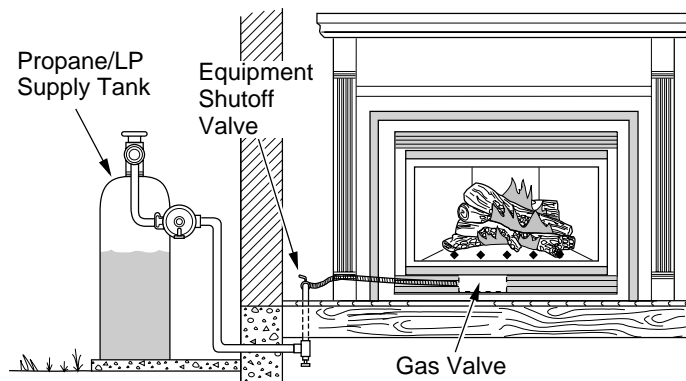
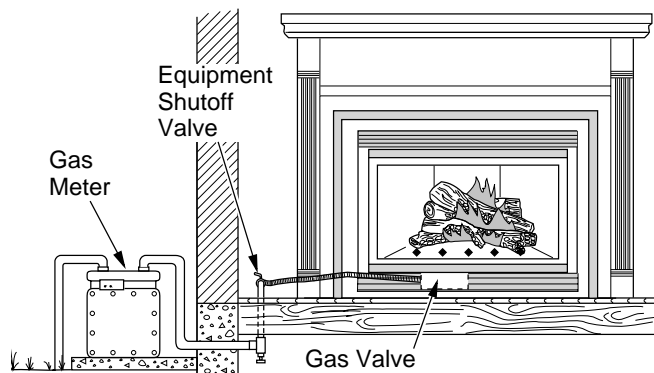

Figure 34 - Checking Gas Joints for Propane/LP Gas Fireplace
Figure 35 - Checking Gas Joints for Natural Gas Fireplace
3. Check all joints from propane/LP supply tank or gas meter to equipment shutoff valve (see Figure 34 for propane/LP or Figure 35 for natural gas). Apply noncorrosive leak detection fluid to all joints. Bubbles forming show a leak. Correct all leaks at once.
4. Check all joints from equipment shutoff valve to thermostat gas valve (see Figure 34 for propane/LP or Figure 35 for natural gas, page 20). Apply noncorrosive leak detection fluid to all joints. Bubbles forming show a leak. Correct all leaks at once.